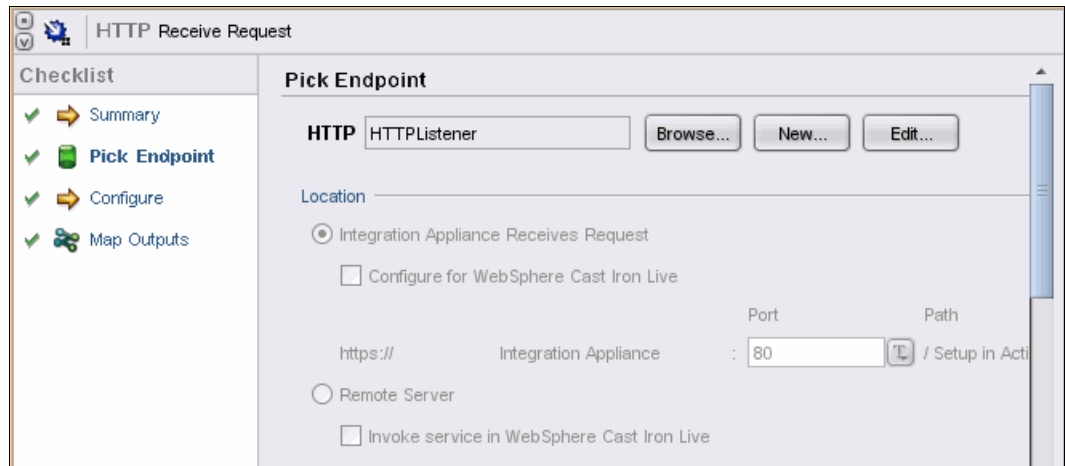

Figure 11-22 Endpoint selection for HTTP Receive Request
7. Click **Browse**, and select **HTTP Listener**. Refer to Figure 11-22.